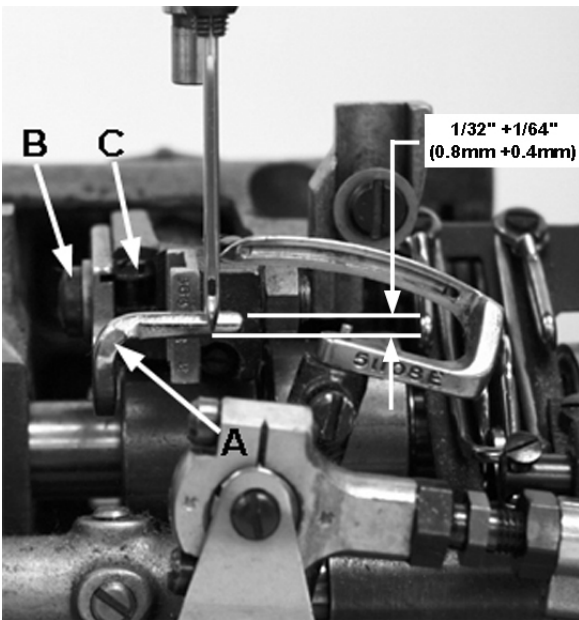

Fig 13
Rotate handwheel in operating direction to position looper point to just enter the scarf of needle. At this time the needle guard (A, Fig 13) should be at its extreme end of forward travel. Set the guard front to back as close as possible without touching the needle. Guard should be set as low as possible, yet have its vertical face approach above the needle point $1/32'' + 1/64''$ (0.8mm +0.4mm). To move the needle guard forward or backward, loosen the screw (B), move needle guard as required, and retighten screw. To raise or lower needle guard, loosen screw (B), and turn screw (C) clockwise to lower needle guard or counterclockwise to raise it. Retighten screw (B) after guard is properly set.